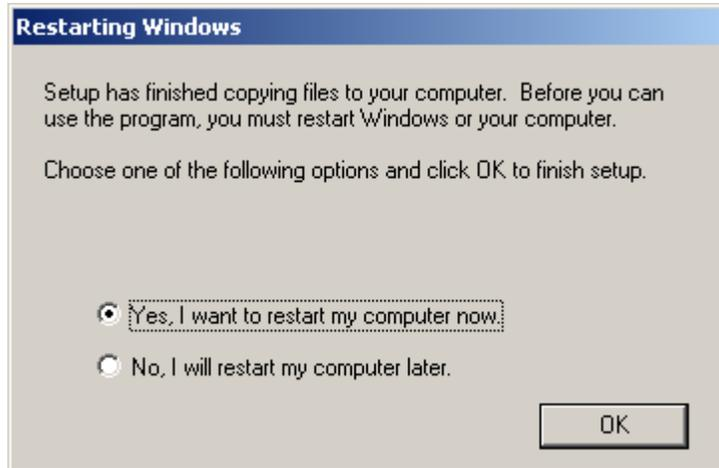

Figure 6-9: Restart the Computer
Step 11: Once all the drivers are selected, the drivers are then installed onto the system. After the installation is complete the user is prompted to restart the computer now or later. (See **Figure 6-9**) Select when the computer must be restarted. Click “**OK**” to exit the installation program.